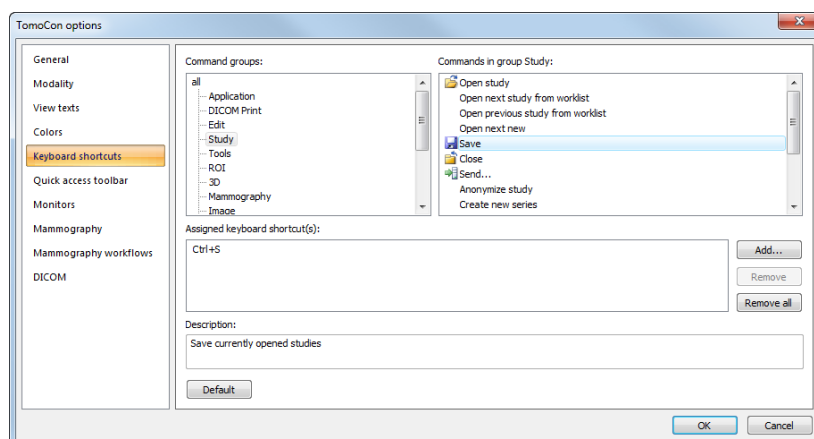

Figure 66 – Keyboard shortcuts tab of the TomoCon options dialog
TomoCon allows you to define your own shortcuts using keyboard shortcuts management on the well-arranged **Keyboard shortcuts** tab of the **TomoCon options** dialog (see Figure 66).
- Find the command group to which the shortcut (to be removed) belongs in the list on the left-hand side of the dialog (see Figure 66).